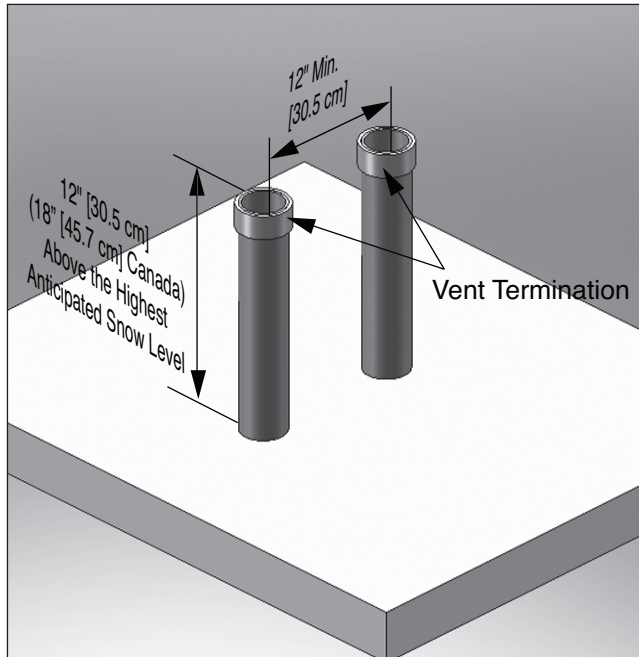

Fig. 16 - Category IV- Vertical Termination of Multiple Prestige Boilers
2. Each vent termination must be a minimum 12 in. [30.5 cm] from the adjacent termination for installations in the U.S. as shown in *Fig. 16 below*. For installations in Canada, provide clearances as required by CAN/CSA B149.1.